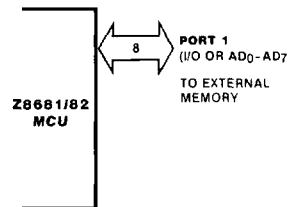

Figure 8. Port 1
Port 1 is a dedicated Z-BUS compatible memory interface. The operations of Port 1 are supported by the Address Strobe ($\overline{AS}$) and Data Strobe ($\overline{DS}$) lines, and by the Read/Write (R/W) and Data Memory (DM) control lines. The low-order program and data memory addresses (A_0 - A_7) are output through Port 1 (Figure 8) and are multiplexed with data in/out (D_0 - D_7). Instruction fetch and data memory read/write operations are done through this port.